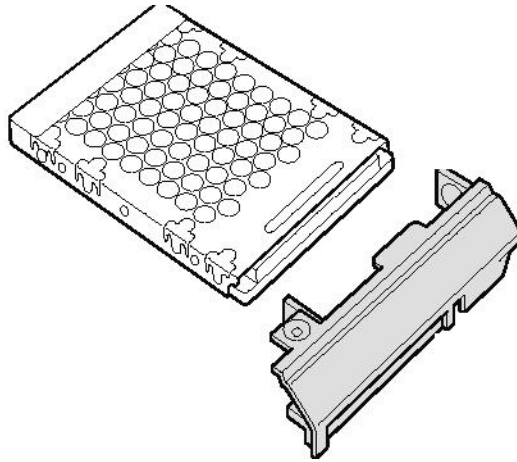

Figure 12-19.- A31p Hard Drive cover removal.
8. Remove cover from A31p Hard Drive (refer to figure 12-19)